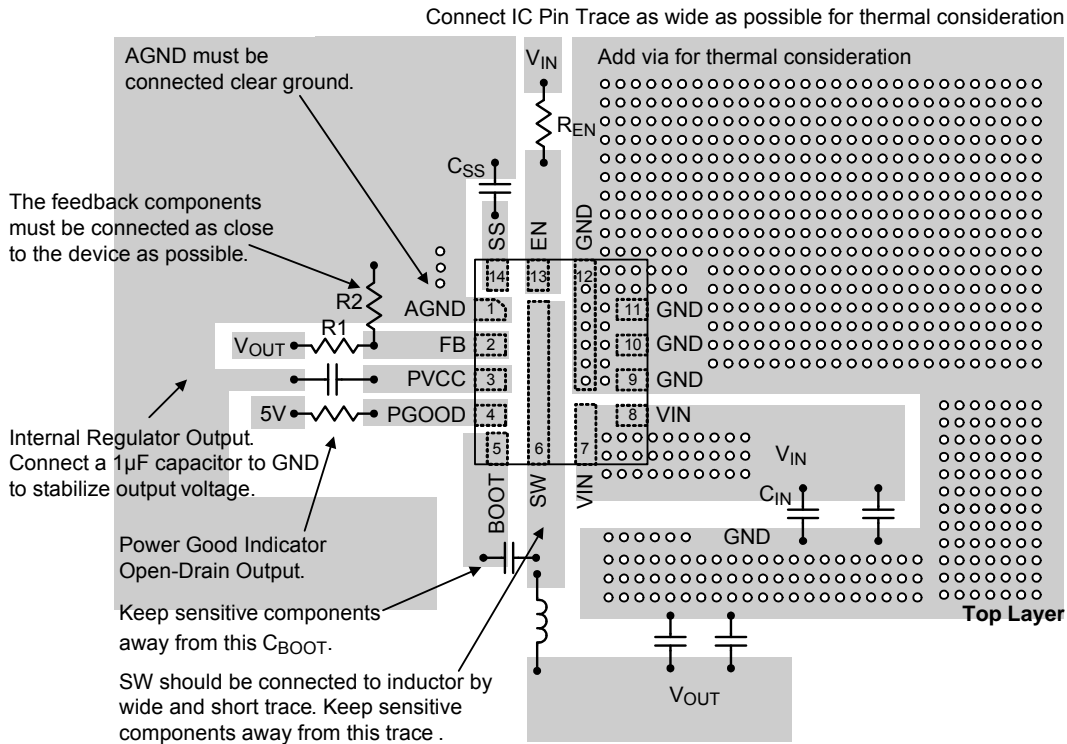
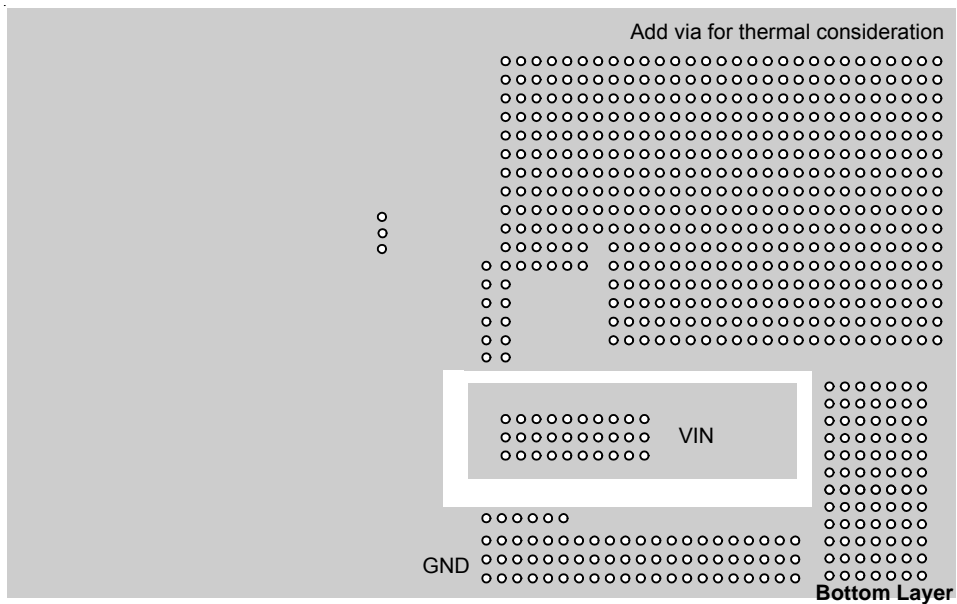

Figure 8. PCB Layout Guide (Top Layer)
Figure 9. PCB Layout Guide (Bottom Layer)
- ▶ An example of PCB layout guide is shown in Figure 8 and Figure 9 for reference.